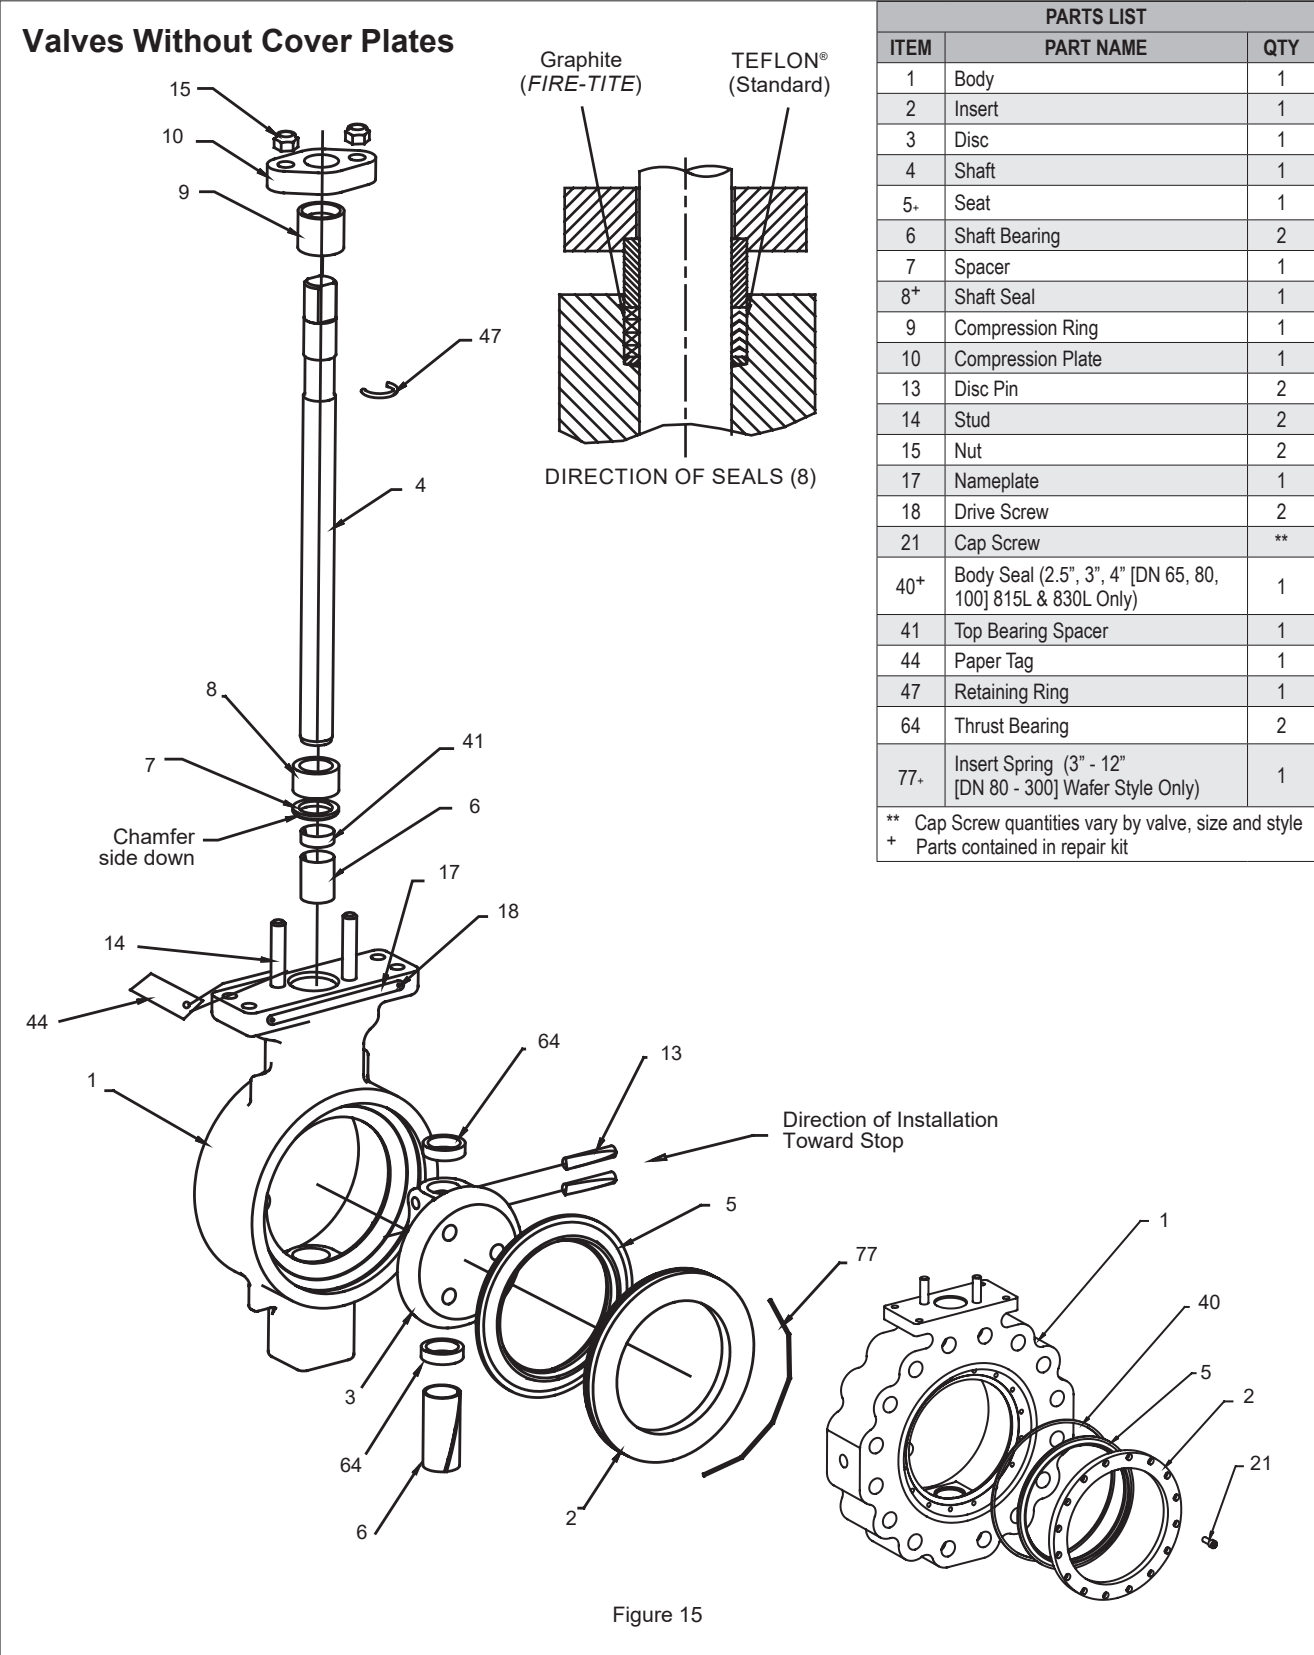

Figure 15
- c. From **Figure 15**, the ballooned part number, part name and quantity required.